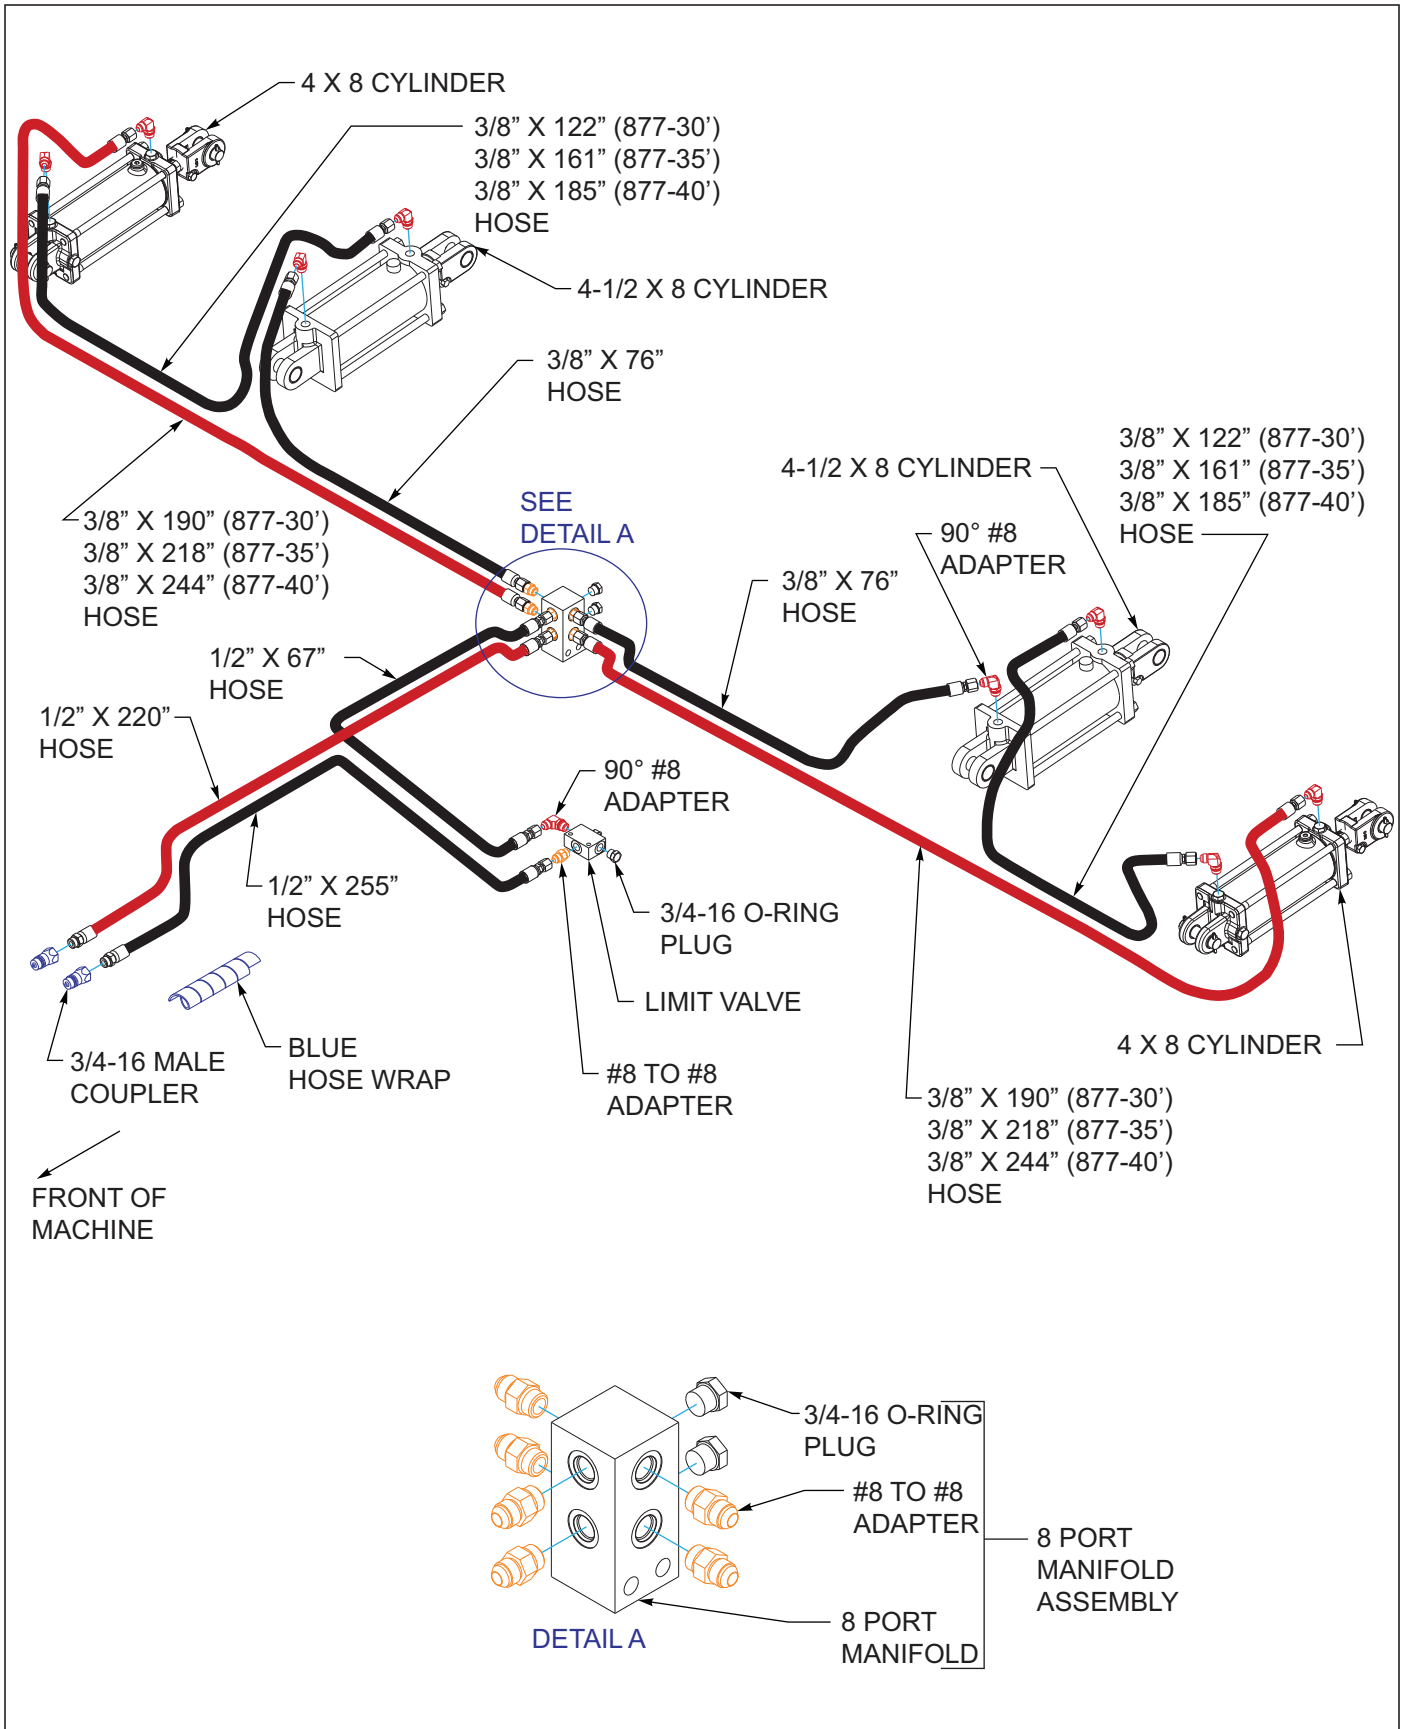

Figure 3-14: Lift Hydraulic Installation
See Figure 3-14 for Hydraulic Lift Installation.
3. Install 90° #8 adapters into base and rod end of each lift cylinder *See Figure 3-14*.
5. Install lift cylinder hoses and couplers *See Figure 3-14*. Wrap lift cylinder hoses with blue hose wrap.